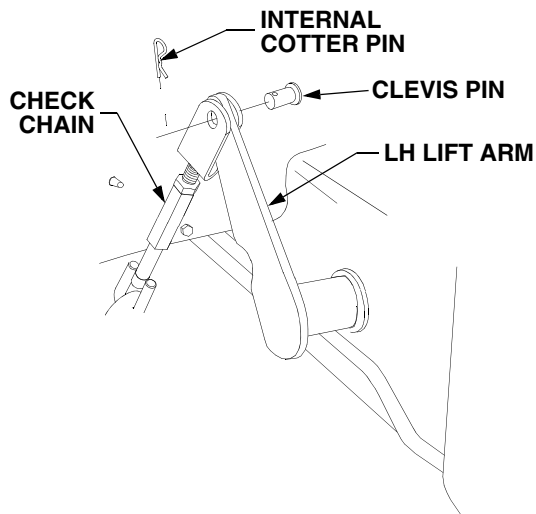

Figure 61
- Disconnect the check chain from the LH lift arm by removing the internal cotter pin and clevis pin. Reinstall the clevis pin and internal cotter pin in the check chain to avoid their loss. Refer to Figure 61.
- Slide the check chain of the deck over the LH lift arm. Align the holes, insert the clevis pin, and secure with the internal cotter pin. Refer to Figure 61.